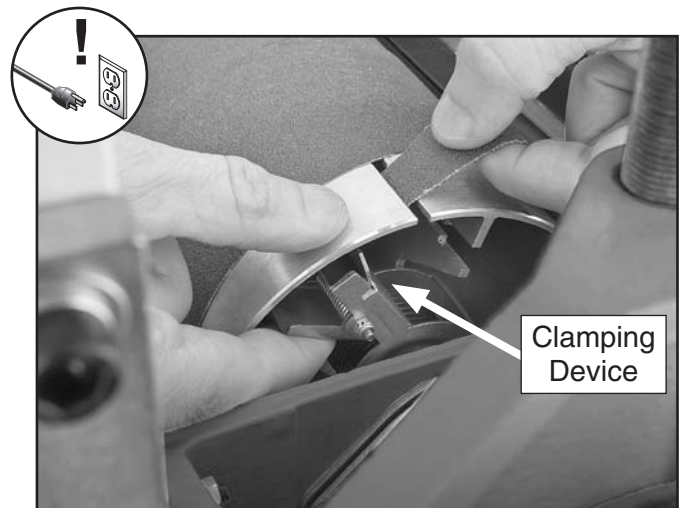

Figure 18. Aligning right clamping device jaw with the drum slot.
3. Reach under the right lip of the drum and push the clamping device so that the jaw is aligned with the slot in the drum surface (see **Figure 18**).